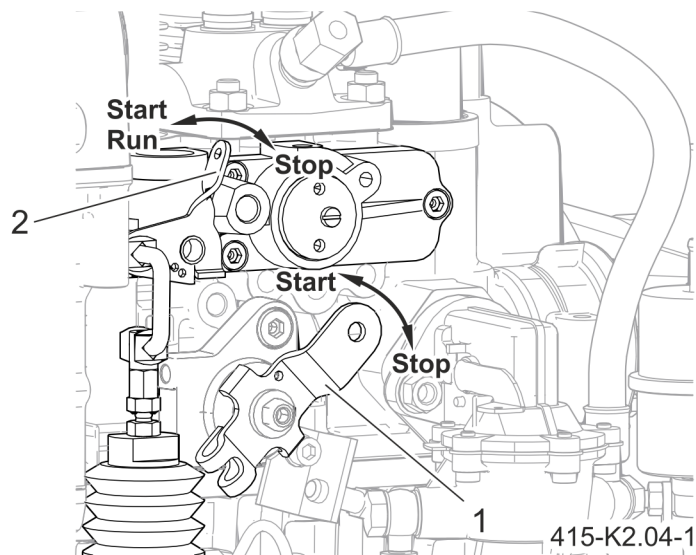

FIGURE 6.4 Engine speed setting lever
- Set the engine speed control lever (1) to 1/2 START or START position, as required (FIGURE 6.4).
- Make sure that the stop lever (2) is in the START resting position.